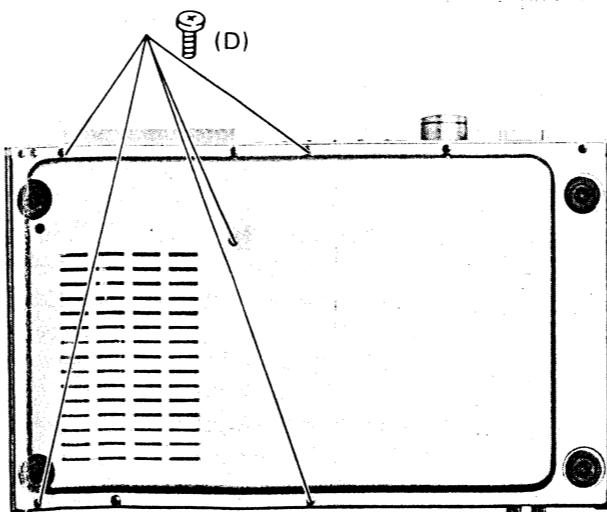

Figure 16
- 2 Remove five screws (D) from the bottom plate. (See Figure 16)